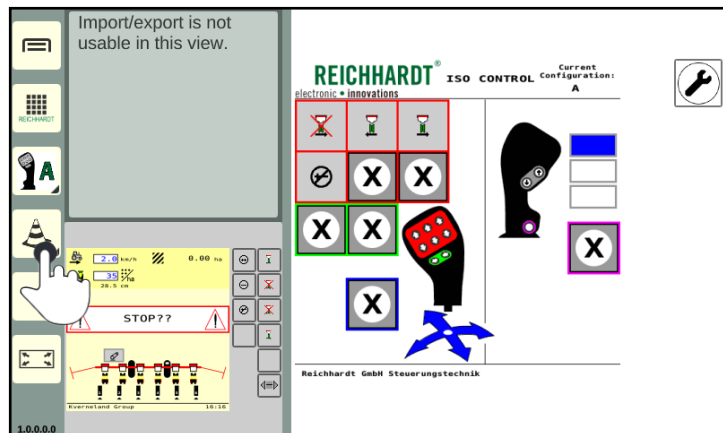

Fig. 60: Pressing and holding the application
1. Press and hold an application in the application overview or a shortcut on the sidebar (see Fig. 60).